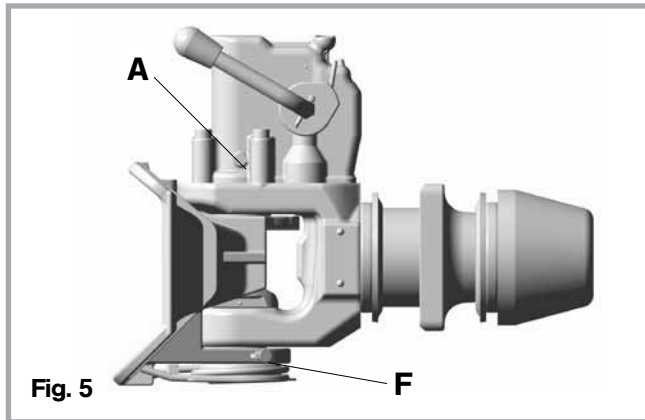

Fig. 5
- Under harsh operating conditions or severe exposure to dirt or water regrease automatic unit **(A) when coupling is open** (see fig. 5):